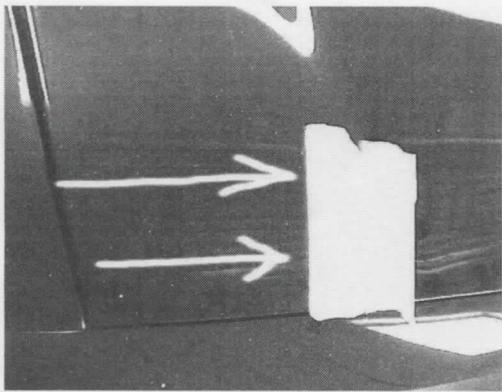

FIG. 1
1. USING 2" MASKING TAPE, TAPE OFF AREA OF CAR WHERE WING WILL MOUNT (SEE FIG. 1). THIS STEP IS TAKEN TO PROTECT THE REAR DECK DURING INSTALLATION.